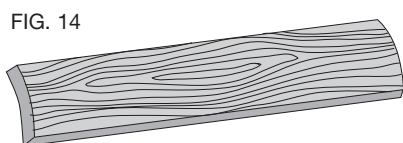

FIG. 14
**TO PLANE CUPPED WOOD (FIG. 14)**